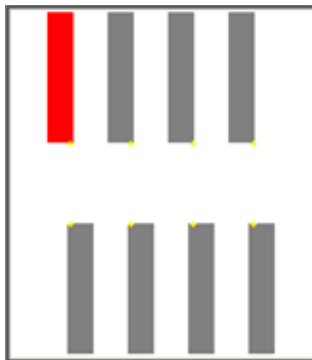

Figure 113: Cavity duplication preview
8. Click **Finish** if the preview looks like Figure 113.